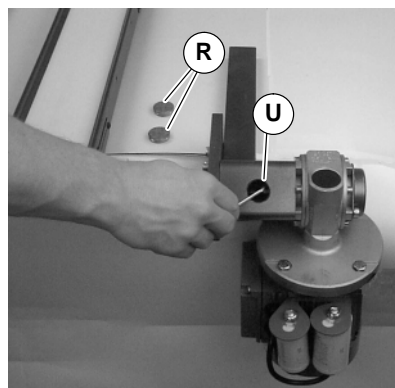

Figure 10
16. Tighten coupling set screws (U of Figure 10). Replace inspection plugs (R).